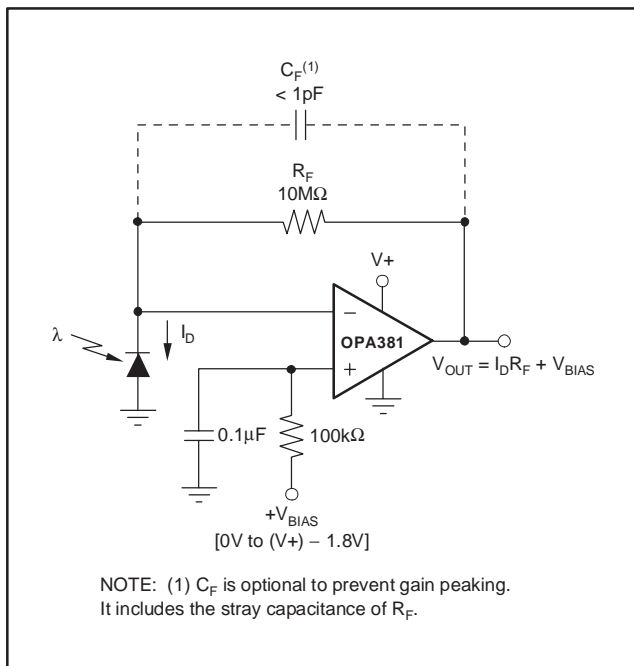

**Figure 3. Amplifier with Pull-Down Resistor to Achieve  $V_{OUT} = 0V$**
- (1) High temperature operating life characterization of zero-drift op amps applying the techniques used in the OPA381 have repeatedly demonstrated randomly distributed variation approximately equal to measurement repeatability of  $1\mu V$ . This consistency gives confidence in the stability and repeatability of these zero-drift techniques.
- (2) Tested with output connected only to  $R_P$ , a pulldown resistor connected between  $V_{OUT}$  and  $-5V$ , as shown in Figure 3. See also **Applications** section, *Achieving Output Swing to Negative Rail*.
- (3) Transimpedance frequency of 250kHz.
- (4) Time required to return to linear operation.
- (5) From positive rail.
The OPA381 performance results from an internal auto-zero amplifier combined with a high-speed amplifier. The OPA381 has been designed with circuitry to improve overload recovery and settling time over that achieved by a traditional composite approach. It has been specifically designed and characterized to accommodate circuit options to allow 0V output operation (see Figure 3).
The output of the OPA381 can be made to swing to 0V, or slightly below, on a single-supply power source. This extended output swing requires the use of another resistor and an additional negative power supply. A pulldown resistor may be connected between the output and the negative supply to pull the output down to 0V; see Figure 3.